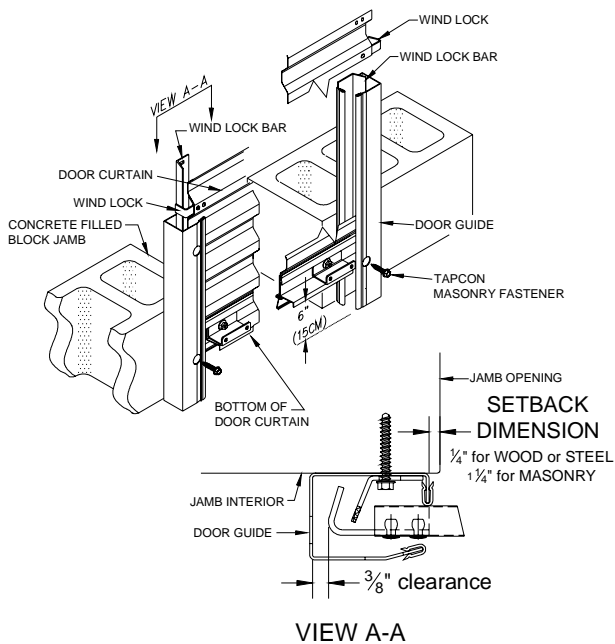

Figure 10.
7.1 Position the guides against the jambs according to the clearance shown in Figure 10. Loosely fasten the guides to the jambs using a fastener in the top hole only. Guides will need slight adjustment therefore **DO NOT** install the remainder of the fasteners until such time as the adjustment is true. Level one guide, and loosely install a second fastener in the bottom hole. If mounting to masonry, install clips provided as shown in Figure 10. Align the clips with the holes along the length of the guide and flush with the back of the guide. (Anchors by others).